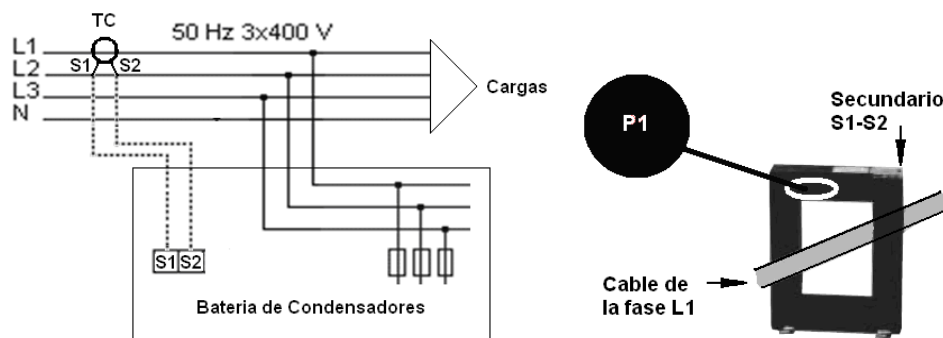

Figure 7: Installation of the external current transformer (CT).
3.9.- CURRENT TRANSFORMER (CT) CONNECTION
A current transformer (CT) that is external to the capacitor bank must be installed to measure the total load current plus that of the capacitor bank (Figure 7).
The standard transformer must have a nominal output of 5 A at the secondary. We recommend connecting the CT to phase L1 in the direction of the current flow from P1 to P2 (see Figure 7) and connecting the secondary (terminals S1, S2) to the terminals with the same name on the capacitor bank (see Figure 7)